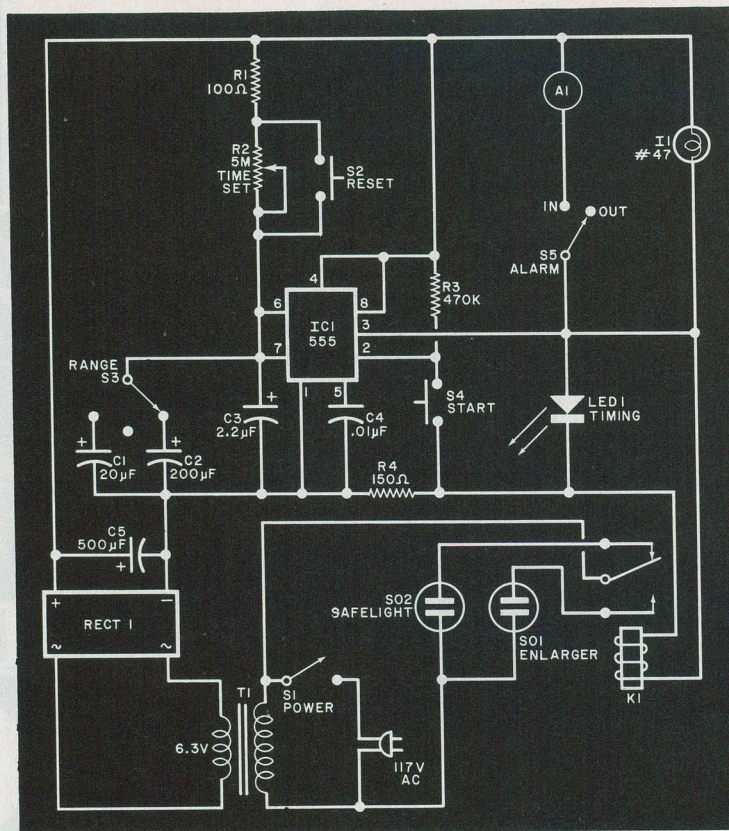

Fig. 1. Basic 555 timer can be adjusted for almost any desired timing ranges. The relay circuit allows timing an enlarger then turning on safelight.
*Note—The following are available for non-commercial use from Radiation Monitoring Devices, Inc., 44 Hunt St. Watertown, MA 02172: complete kit of parts for Fig. 1 for \$85; complete kit of parts for Figs. 1 and 2, including case but not batteries, for \$125. Also available separately: CdTe radiation detector for \$90. Add \$5 for shipping and handling. Massachusetts residents, please add 5% tax. Allow 6 weeks for delivery. Available in U.S.A. only.*
at the output of IC4A, you can add the circuit shown in Fig. 2 to that in Fig. 1. The combination of IC10, IC11, and seven-segment displays DISP1, DISP2, and
Power for the Fig. 1 circuit can be a conventional 9-volt battery or dc power supply. When the Fig. 2 circuit is added, four AA cells in series can be used to power the LED display. POWER switch *S1* controls both power sources.
Fig. 3. Actual-size etching and drilling guides for the two-sided pc board are shown below. Component mounting on the top is at left. Note that the upper portion of the board (containing the audible circuit shown in Fig. 1) can be detached if only that circuit is to be used.
of the Sink Sentinel is shown in Fig. 1. It is based on a conventional 555 timing circuit (*IC1*). TIME SET potentiometer *R2* and RANGE switch *S3*, the latter selecting the appropriate range capacitor (*C1* and *C2* shown, but more capacitors can be added, as desired), determine the timing range.
and C values shown in Fig. 1 were set in three ranges. The first and most commonly used for photographic printing and enlarging is from about 3 to 23 seconds; the second from 20 seconds to nearly 3 minutes; and the last from 3 to almost 30 minutes. If desired, the R and C values can be changed to produce any desired timing interval.
An optional enlarger/safelight powering arrangement is provided by sockets SO1 and SO2 and relay K1, as shown in Fig. 1. If you prefer not to have this option, you can eliminate K1 and SO1 and SO2. Assuming you decide to keep this option, when K1 is not energized at the end of a timing cycle, SO2 is powered and can be used to power your safelight. During the timing cycle, K1 is energized, connecting SO1 to the power line for powering an enlarger.